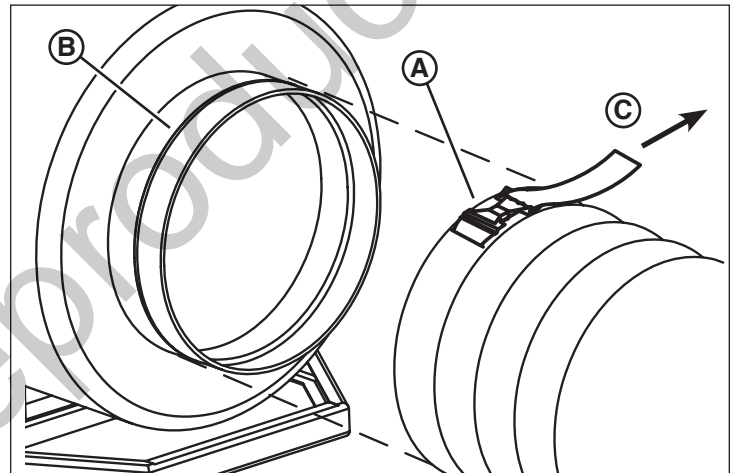

Figure 17
1. Install the cuff of the flexible ducting with strap and clamp (A, Figure 17) over the heater unit outlet ring. Make sure that the cuff, strap and clamp are beyond the bead on the outlet ring (B).
2. Tighten the cuff over the outlet ring by pulling on the loose end of the strap (C).